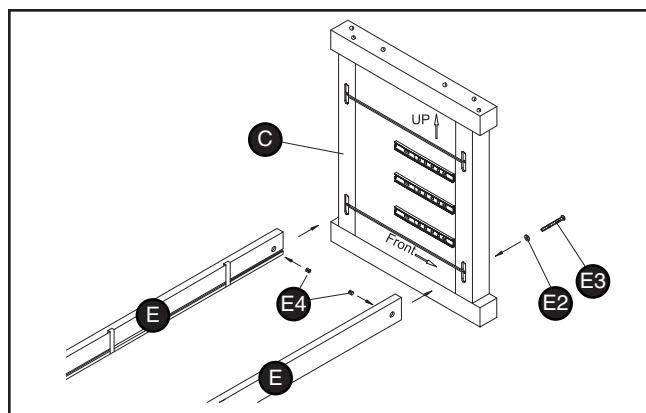

Figure 12. Right leg and cross brace installation.
1. Position the right side leg (C) on the floor so the UP arrow is pointing upward and the FRONT arrow points to the front, as shown in Figure 12.
2. Place the two lower cross braces (E) on the floor so the slots face each other, as shown in Figure 12.
3. Insert the barrel nuts (E4) (Figure 12) into the ends of the cross braces so the slotted end faces outward and the screwdriver slots are aligned horizontally with the direction of the cross braces.
4. Insert the cross braces into the mortised holes into the right-side leg, as shown in Figure 12.
5. Place a flat washer (E2) on each barrel bolt (E3), and insert the bolts through the right-side leg (Figure 12).
6. Using a 5mm hex wrench, thread the bolts into the barrel nuts (E4) (Figure 12), but do not fully tighten at this time.